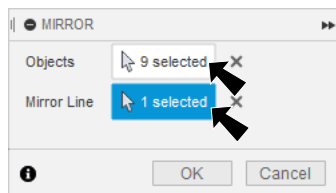

Fig. 12
Step 2. In the Mirror panel set, Fig. 12